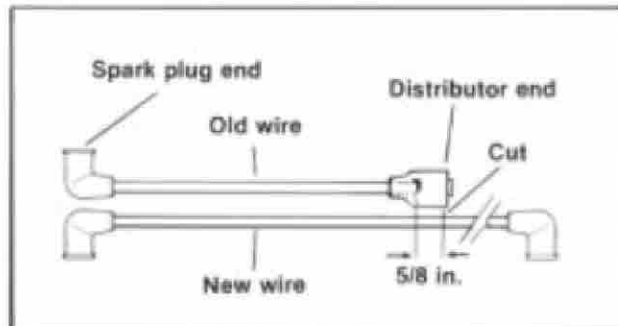

Figure 1. Cutting wire
2. See Figure 1. Measure one of the old spark plug wires against the supplied length of wire. Add 5/8 in. length (to allow for terminal installation) and cut new cable. Do the same for the other spark plug wire using remaining new cable.